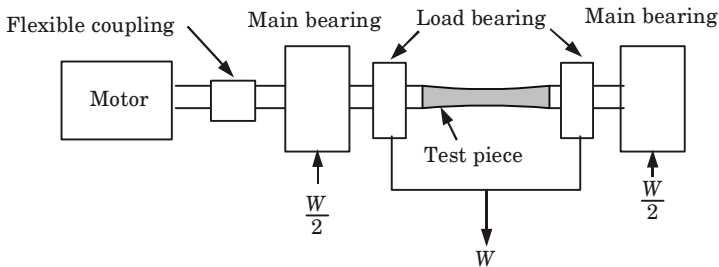

Fig. 2.14.1.
4. Fig. 2.14.1 shows a constant load machine used for fatigue testing.